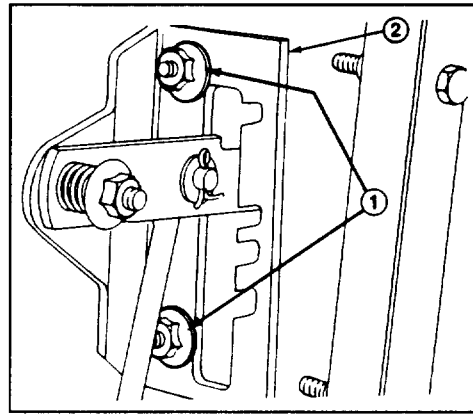

Figure 27
3. Loosen flange nuts securing selector plate to control panel. This allows selector plate to move freely for adjustment (Fig. 27).